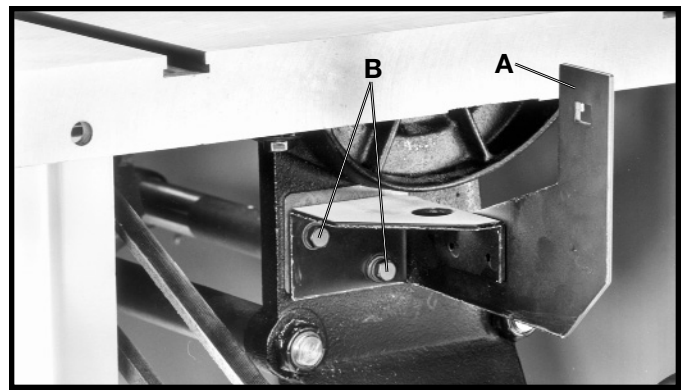

Fig. 29
2. Fasten the rear splitter mounting bracket (A) Fig. 29, to the rear trunnion. Align the two holes in the rear splitter mounting bracket with the two holes in the trunnion. Place a 1/4" lock washer onto a 1/4-20x3/4" hex head screw, place a 1/4" flat washer onto the hex head screw, insert the hex head screw through the hole in the rear splitter mounting bracket and thread the hex head screw into the rear trunnion. Repeat this process for the remaining hole. **Do not completely tighten the two screws (B) at this time.**